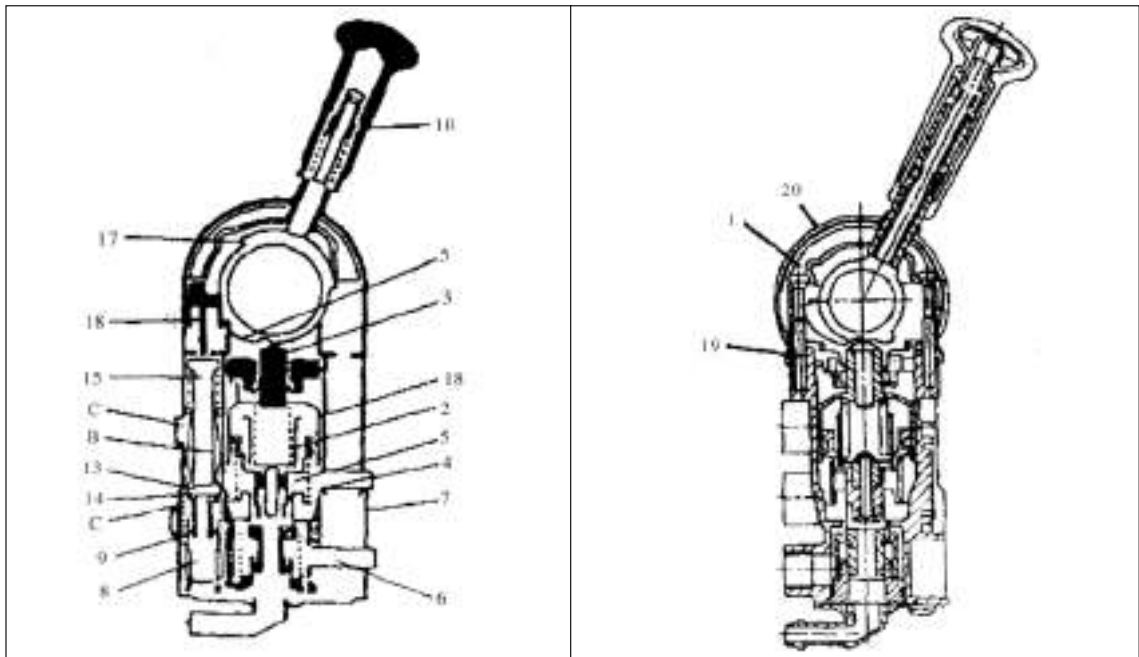

Fig9-5 Structural schematic diagram of hand control valve
- A brief structural diagram is shown in Fig.9-5. Running state: push handle 10 and drive cam 5 to rotate to running position. Upper piston 3 falls and presses down balance spring 2. Push lower piston 18 down to close exhaust valve. Push open intake valve, so that compressed air in cavity 6 enters cavity a. At this time, compressed air in cavity a is divided into 2 lines: one line enters spring brake air chamber via port 21 to relieve spring braking; the other line enters trailer control valve via port 22 to relieve braking of trailer. At this time, the vehicle is in a state totally out of braking.